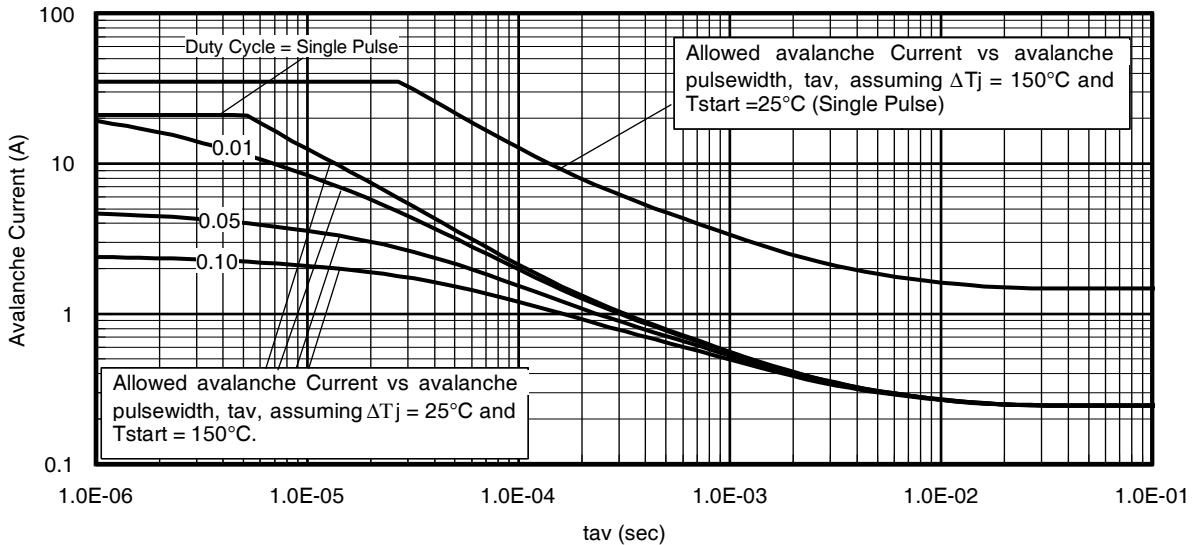

Fig 14. Typical Avalanche Current Vs. Pulsewidth
- ① Repetitive rating; pulse width limited by max. junction temperature.
- ② Starting $T_J = 25^\circ\text{C}$, $L = 0.51\text{mH}$, $R_G = 25\Omega$, $I_{AS} = 21A$.
- ③ Pulse width $\leq 400\mu s$; duty cycle $\leq 2\%$.
- ④ R_{θ} is measured at T_J of approximately 90°C .
- ⑤ Limited by T_{jmax} . See Figs. 14, 15, 17a, 17b for repetitive avalanche information
Notes on Repetitive Avalanche Curves , Figures 14, 15:
7. ΔT = Allowable rise in junction temperature, not to exceed T_{jmax} (assumed as 25°C in Figure 14, 15).